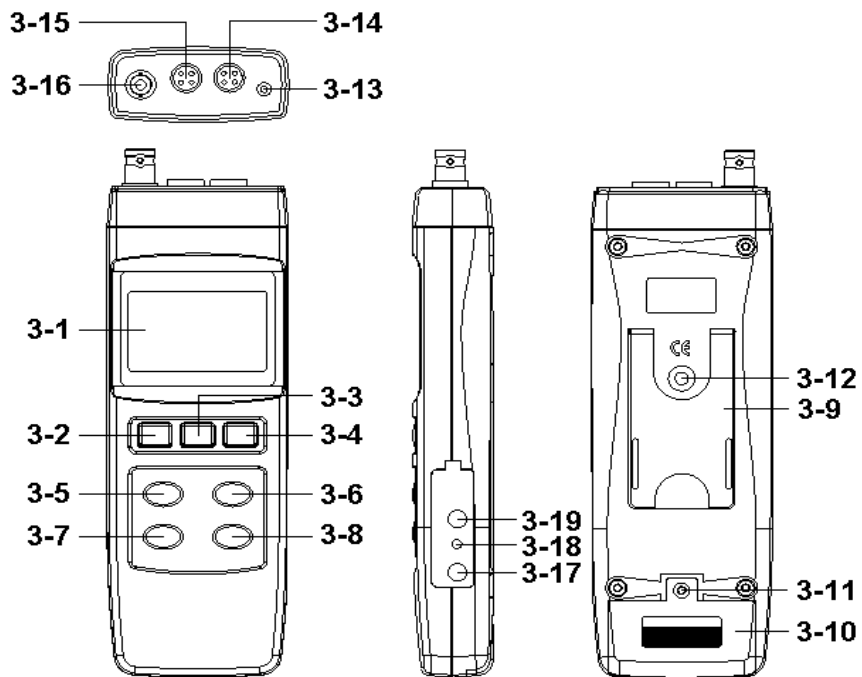
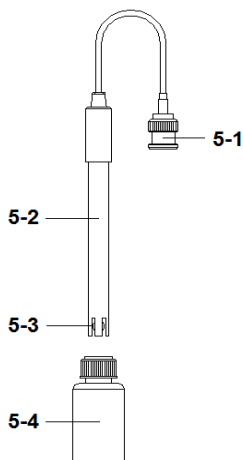

Fig.1
Fig. 2
(3-2, Fig. 1) momentarily.
* *Pressing the " Power Button " (3-2, Fig. 1)
Use the " Function Button " (3-6, Fig. 1) Key to select intent test
- 1) Power on the meter by pressing " Power Button " (3-2, Fig. 1) once.
Use the " Function Button " (3-6, Fig. 1) Key, select to pH measurement Function.
- 2) Prepare the pH Electrode (optional), install the " Probe Plug " (5-1, Fig. 2) into the " PH Socket/BNC Socket " (3-16, Fig. 1).
- 4) Hold the " Electrode Handle " (5-2, Fig. 2) by hand and let the " Sensing head " (5-3, Fig. 2) immersed wholly into the measured solution and little shake the electrode.
but should prepare one temperature probe (optional, TP-07), insert the TP-07's plug into the " Temp. Socket " (3-13, Fig. 1), immerse the sensing head of temperature probe (TP-07) into the measurement solution.
When not use the Electrode, it should immerse the " Electrode sensing head " (5-3, Fig. 2) into the " Protection bottle " (5-4, Fig. 2)
- 1) Use the " Function Button " (3-6, Fig. 1) Key, select to mV (ORP) measurement Function.
- 2) Prepare the ORP Electrode (optional, ORP-14), install the " Probe Plug " of ORP electrode into the " PH Socket/BNC Socket " (3-16, Fig. 1).
- 1) Prepare the pH Electrode (optional), install the " Probe Plug " (5-1, Fig. 2) into the " PH Socket/BNC Socket " (3-16, Fig. 1).
- 2) Power on the meter by pressing " Power Button " (3-2, Fig. 1) once.
- 4) Hold the " Electrode Handle " (5-2, Fig. 2) by hand and let the " Sensing head " (5-3, Fig. 2) immersed wholly into the measured solution and little shake the probe. Display will show the PH value.
- 5) Use the two fingers to press the " ▲ Button " (3-5, Fig 1) and " ▼ Button " (3-6, Fig. 1) at the same time. Until Display will show the following screen then release the both fingers.
- 6) Press the " ▲ Button " (3-5, Fig. 1) or " ▼ Button " (3-6, Fig. 1) once in sequence to select the following screen.